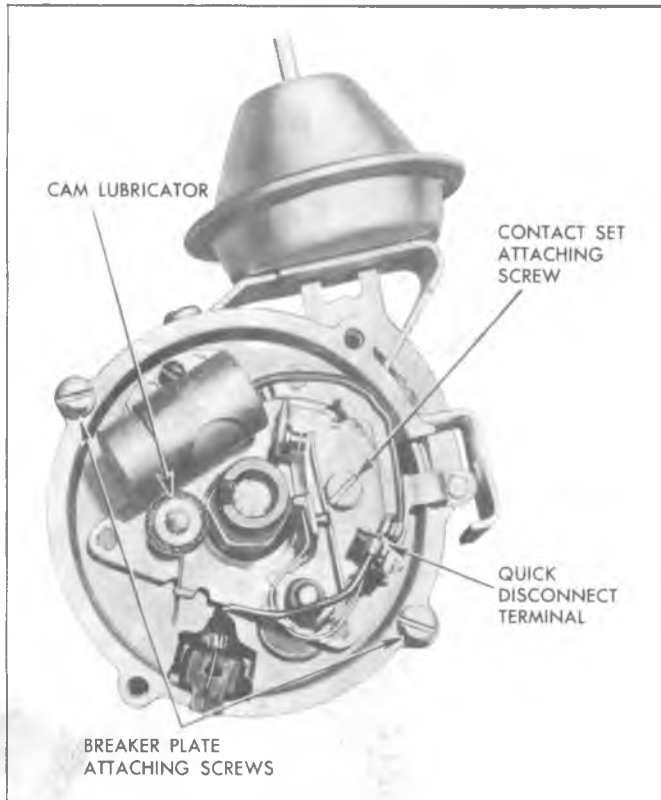

Fig. 4i—Breaker Plate and Attaching Parts
3. Pull primary and condenser lead wires from contact point quick disconnect terminal (fig. 4i).
Six Cylinder Engine Distributor (Fig. 4i)